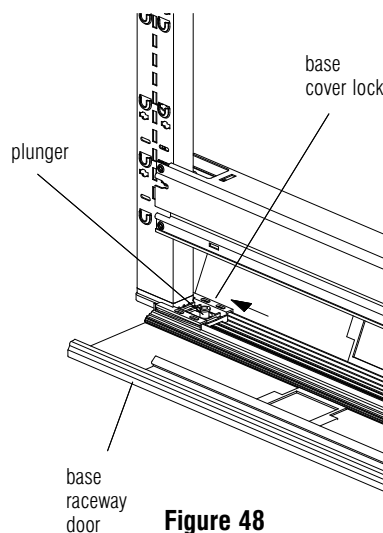

Figure 48
2. Push each base cover lock away from the center of the panel until the plunger pops down into the locked position. **Figure 48.** To ensure the lock is engaged, press inward on the lock. It may be necessary to press down on the plunger to ensure the lock engages.